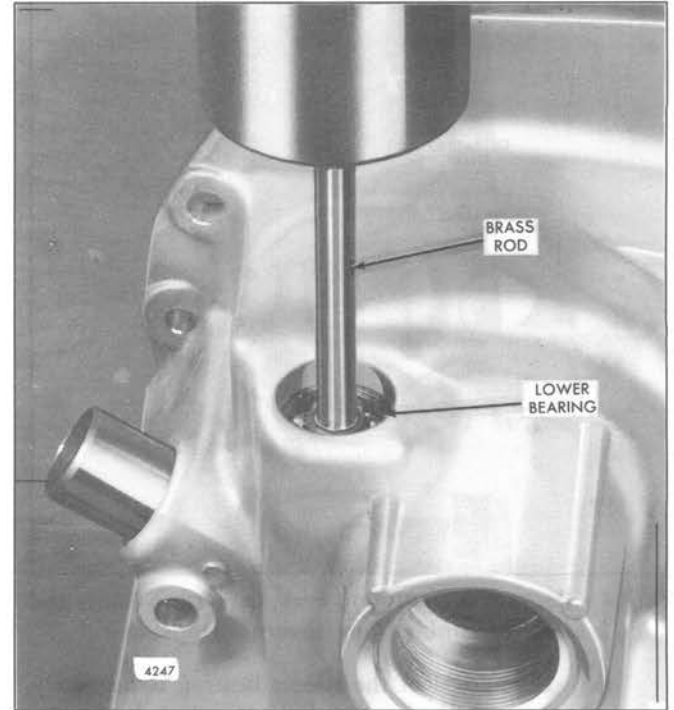

Fig. 13 – Removing Operating Shaft from Operating Shaft Lower Bearing
- f. Support the governor housing bottom side up on the bed of an arbor press, with the two dowel pins in the top of the housing between the two steel supports. Refer to Fig. 13 and place a small brass rod on the end of the operating shaft and press the shaft out of the bearing.